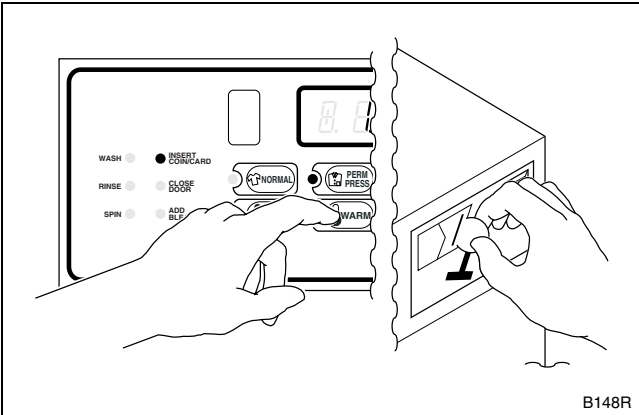

Figure 12
- 5. Select cycle and temperature. Refer to *Figure 12*.
- 6. **For machines equipped with a coin meter:** Insert coins. Refer to *Figure 12*.